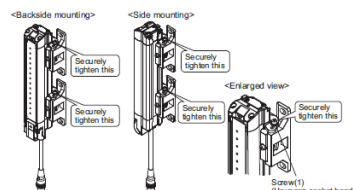

Fig. 7
7. Securely tighten the Screw (1) to fix the Standard Adjustable Bracket to the housing of the F3SG-R. The recommended torque to tighten the Screw (1) is 2.0 N·m. (Fig. 7)